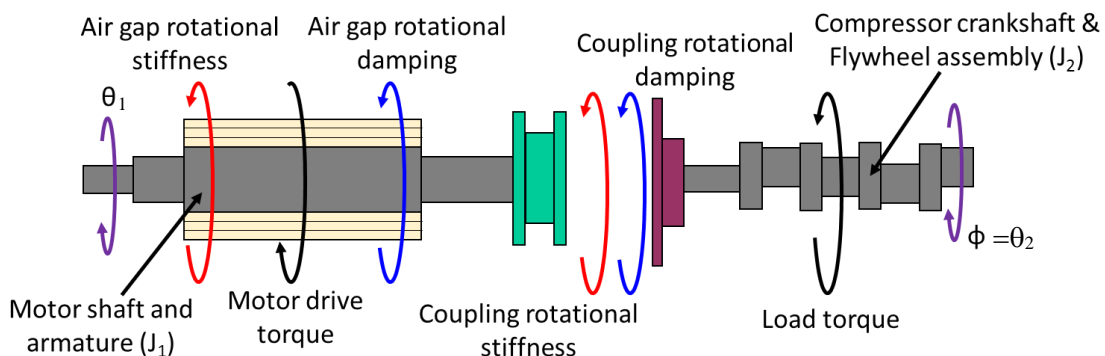

Figure 2. Torsional dynamics model of an electric motor and reciprocating gas compressor
Figure 2 displays a rotational dynamics model of the motor-compressor system including rotational stiffnesses and dissipative elements (i.e. viscous damping) from each of the system components. A rotating magnetic field applies a torque (T_{motor}) to the motor shaft (mass moment of inertia J_1), driving it at an angular speed $\dot{\theta}_1$. An elastomeric coupling, with torsional stiffness (K_2) and damping (C_2), connects the motor to a massive flywheel and compressor crankshaft (J_2). The flywheel turns with angular speed $\dot{\theta}_2$. The small air gap between the rotor armature and the motor stator windings produces an electro-magnetic (EM) torsional stiffness (K_1) and viscous damping (C_1). K_1 connects to ground.